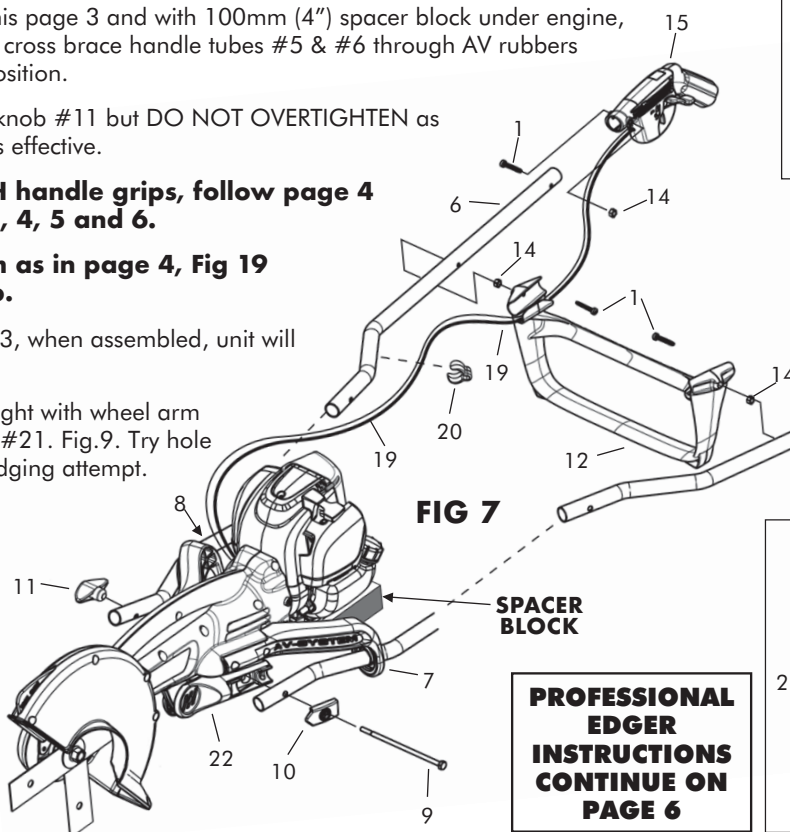

FIG 7
4. As in Fig.7 on this page 3 and with 100mm (4") spacer block under engine, slide assembled cross brace handle tubes #5 & #6 through AV rubbers #7 & #8 into position.
2. Place lawn edger or tiller body on bench or floor **with approximately 75mm-100mm (3"- 4") spacer under engine**. Fit handle tubes assembled with cross brace #7 to edger or tiller body as shown with bolt #1 and tighten large plastic wing nut #6. Fig 11. For professionals, firstly put front ends of tubes through AV rubbers #7 & #8 in Fig.7 on page 3.